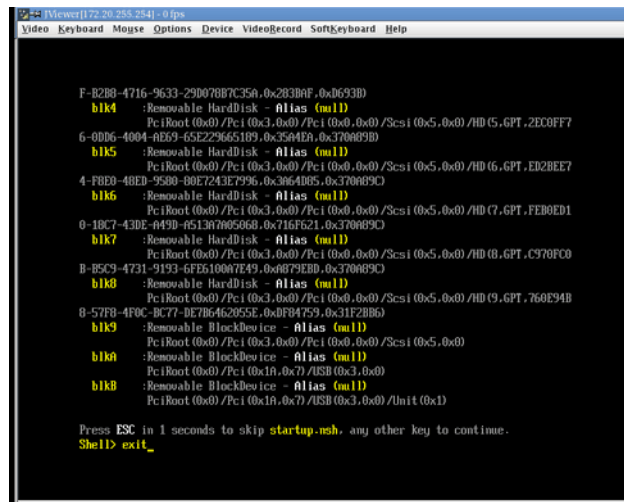

Figure 3-17 KVM JViewer Shell Prompt Screen
3. When the system gets to the EFI prompt, enter `exit` to get to the BIOS setup screen, as shown in Figure 3-17 on page 52.